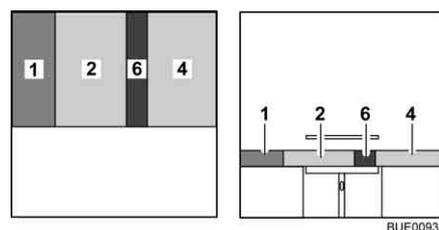

Fig. 90 After conversion
- Place the back cushion (Fig. 90,1) between the seat cushion and the wall.
- Place the additional cushion (Fig. 90,6) between the seat cushions (Fig. 90,2 and 4).